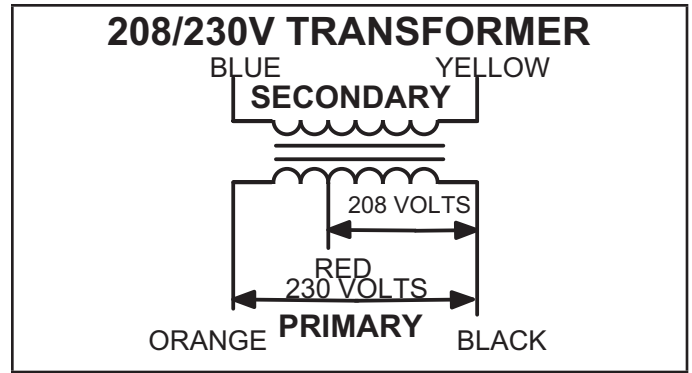

FIGURE 3
All use a single line voltage to 24VAC transformer mounted in the control box. Transformer supplies power to control circuits in the unit. The transformer is rated at 92VA and is protected by a 6 amp circuit breaker (CB8). The 208/230 (Y) voltage transformers use primary voltage taps as shown in FIGURE 3, while 460 (G) and 575 (J) voltage transformers use a single primary voltage tap.